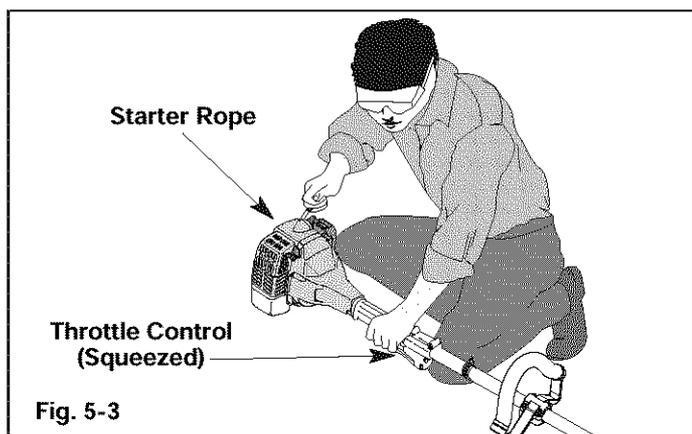

Fig. 5-3
5. With the unit in the starting position (Fig. 5-3), squeeze the throttle control to the wide open (full throttle) position. Pull the starter rope briskly 5 times while still in the **START (I-I)** position. If the engine attempts to run before the fifth pull, proceed to step 6.
7. Pull starter rope 1 to 3 times, briskly, to start the engine (Fig. 5-3).
1. Release your hand from the throttle control (Fig. 5-3). Allow the engine to cool down by idling.
Avoid accidental starting. Make sure you are in the starting position when pulling the starter rope (Fig. 5-3). To avoid serious injury, the operator and unit must be in a stable position while starting.